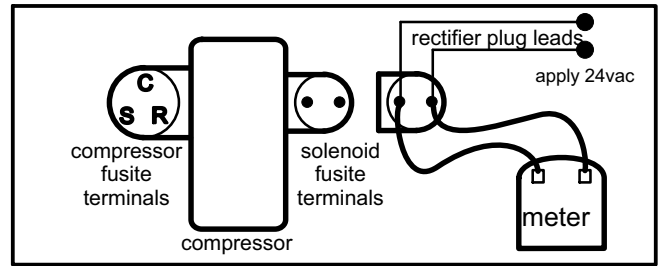

FIGURE 7
- 4 - Turn the low voltage power back onto the unit. Supply 24VAC to the wires of the full wave rectifier plug. Set volt meter to DC volts and measure the DC voltage at the female connector end of the full wave rectifier plug. The DC voltage reading should be 1.5 to 3 volts lower than the input voltage to the plug wire leads. (EX: Input voltage is 24VAC output voltage is 22VDC). See figure 7.